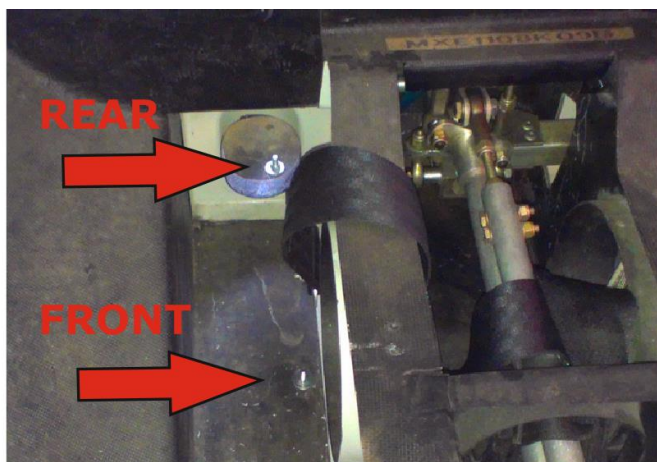
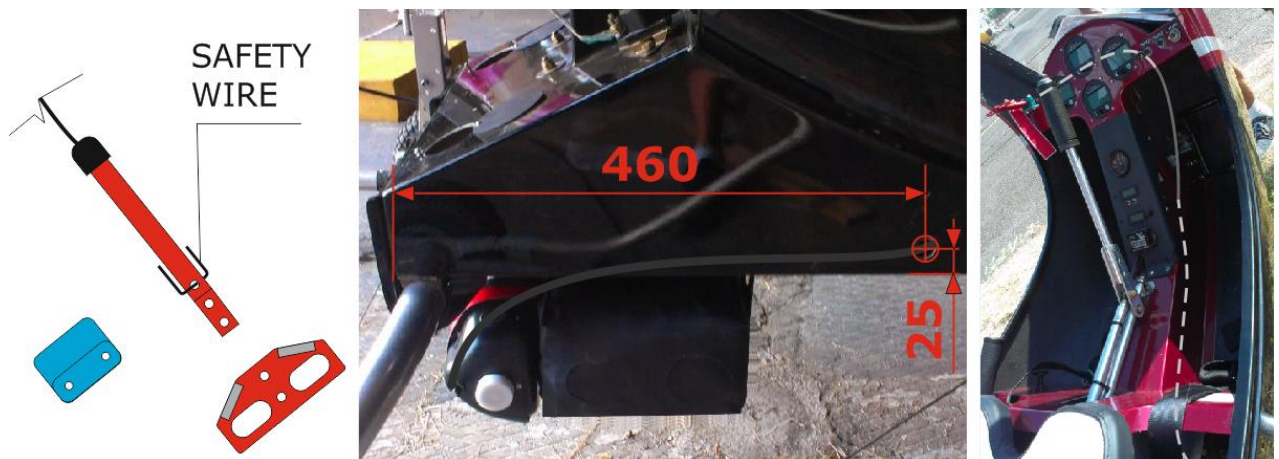

**Figure 4**
**Figure 5**
- 2) Attach the **GRS system assembly** to the bottom of helicopter's fuselage (drill 4x hole for M5 screw through the fuselage) by using self-locking nuts and large metal washers. **Center whole GRS unit** according to figure 4. Look at the GRS System along the system deployment direction, place a long ruler to the left bottom corner of GRS unit and check that there is a **minimum 10 mm gap between a diagonal wire and GRS System** (figure 5)!!! If necessary make a mounting holes for rear screws (figure 6).